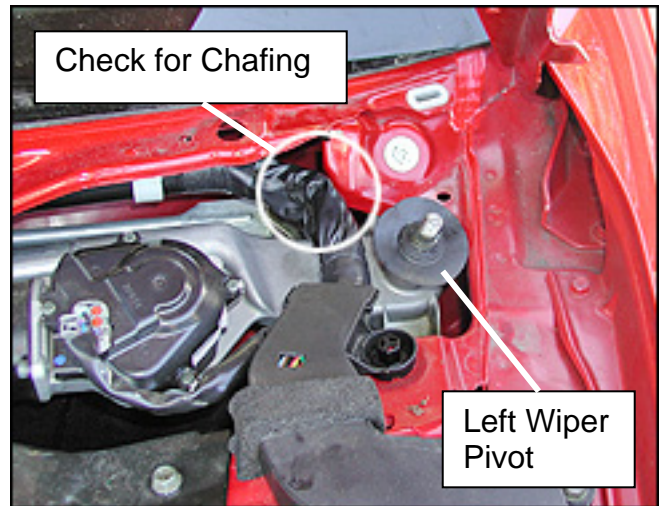

Figure 2
2. With the plastic cowl top removed, inspect the Engine Room Harness in the area shown in Figure 2 for chafing.